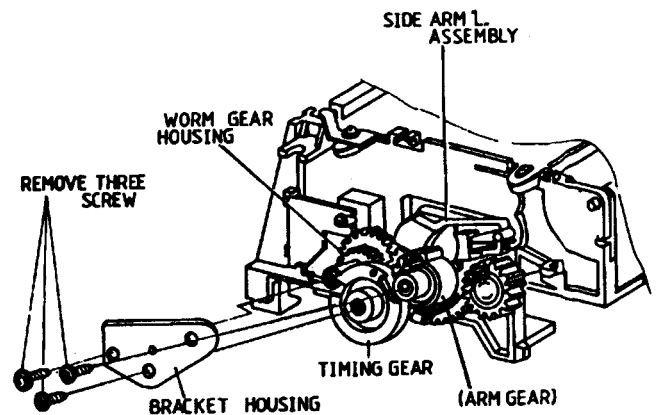

fig.18
- 1). Remove the three screws from the housing bracket. (Fig.18) (Remove the ground wire)
- 2). Remove the timing gear and the side arm(L) assembly and the worm gear housing.